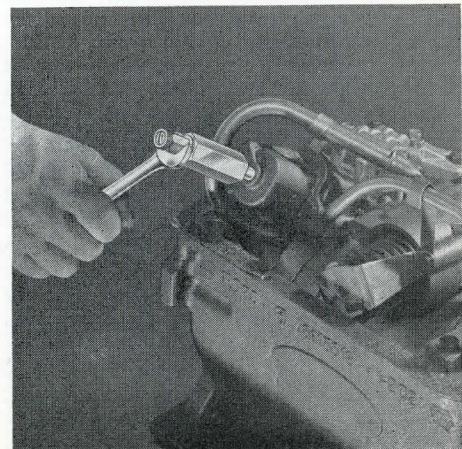

Figure 4
6. With a 9/16" wrench (OEX-18) continue tightening adjusting screw of gauge five full turns from point where it was felt by hand that stem of gauge JUST touched the piston. Fig. 4.